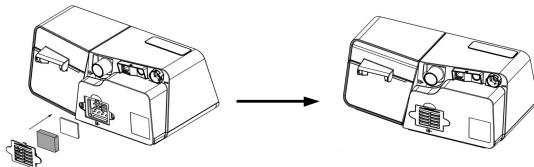

Fig. 18-6
- (3) Install the filter cap containing the reusable air filter/disposable ultra-fine filter to the device, as shown in Fig. 18-6.